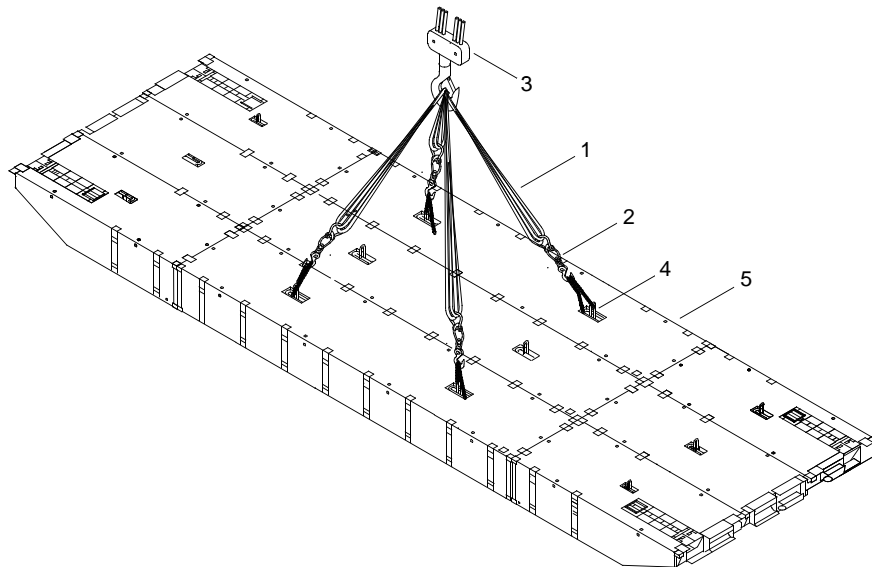

Figure 15. Lifting an Intermediate Section
- Attach four 53,000 lb slings (figure 15, item 1) and 36,000 lb adjustable chain slings (figure 15, item 2) from crane (figure 15, item 3) to pad eye shackles (figure 15, item 4) on intermediate section (figure 15, item 5).
- Using slings (figure 15, items 1 and 2) and crane (figure 15, item 3), lift intermediate section (figure 15, item 5).
- Remove 36,000 lb adjustable chain slings (figure 15, item 2) from pad eye shackles (figure 15, item 4) on intermediate section (figure 15, item 5).
- Remove 53,000 lb slings (figure 15, item 1) from 36,000 lb adjustable chain slings (figure 15, item 2) and crane (figure 15, item 3).